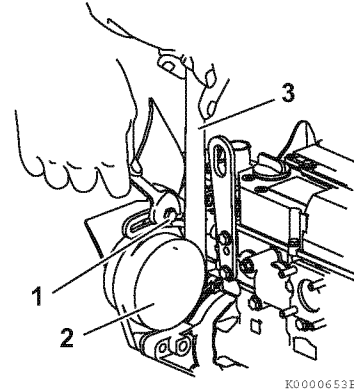

Figure 5-2
2. If necessary, adjust the V-belt tension. Loosen the adjusting bolt (**Figure 5-2, (1)**) and the other related bolts and/or nuts, then move the alternator (**Figure 5-2, (2)**) with a pry bar (**Figure 5-2, (3)**) to tighten the V-belt to the desired tension. Then tighten the adjusting bolts and/or nuts.